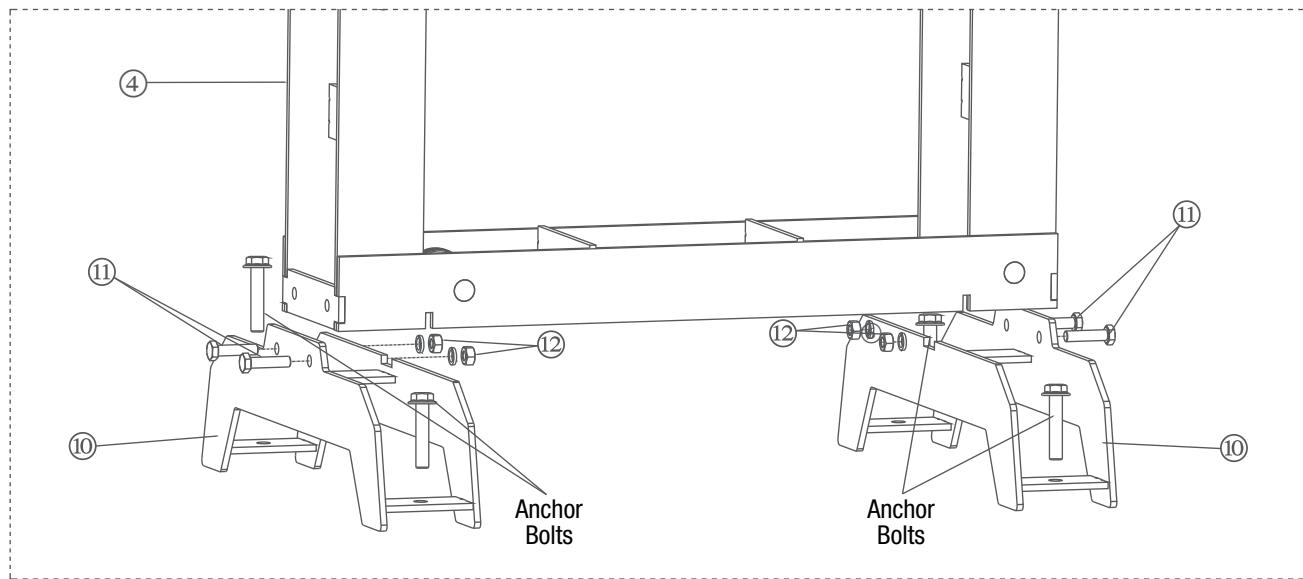

FIGURE 1
1. Remove wooden crate lid. Remove pump handle from crate and the cardboard box that includes the press feet (10) and hardware.
2. Raise the bottom of the press frame assembly (4) over the edge of the wooden crate so the foot base assemblies (10) can be installed on the press frame with the hardware (11 and 12) provided. See figure 1. Tighten hardware.